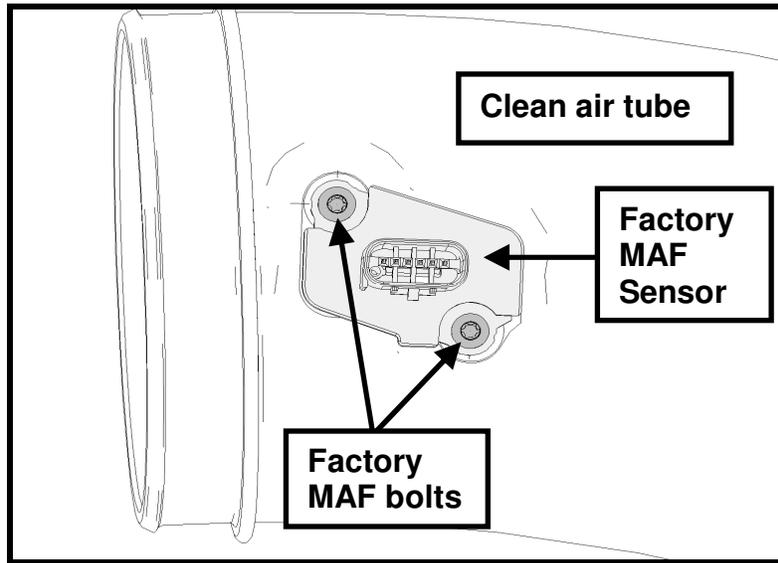

Fig. 28
**STEP 12:** Install the MAF sensor and bolts from the stock airbox into the new clean air tube (R07060101) (See Fig. 28). Torque the bolts to 4 Nm (35 lb in).